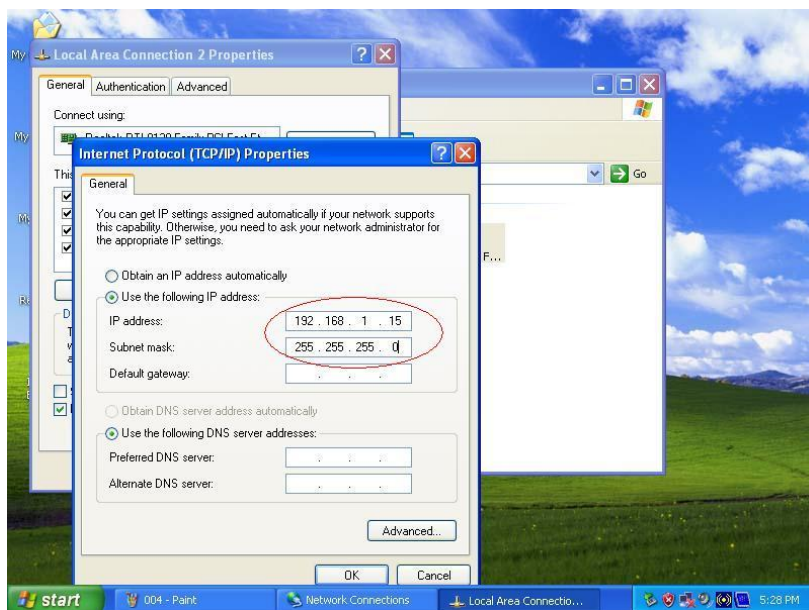

Figure 1.7
1.7 Setup the IP address and Subnet Mask. For example use 192.168.1.15 (DSC controller IP address is fixed at 192.168.1.8). Note: the PC IP Address cannot be the same as the ARM controller address but it should share the same Workgroup name. Click on “OK” to save it. See Figure 1.7.